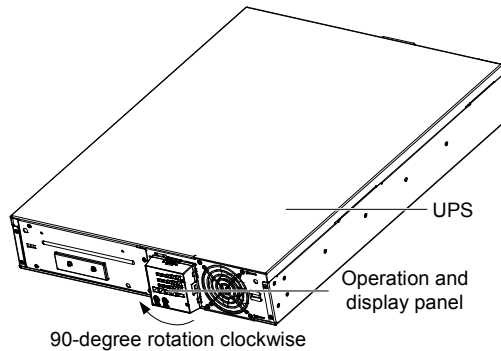

Figure 2-4 Rotating the operation and display panel
2. Pull the operation and display panel gently, rotate it 90 degrees clockwise and snap it back into position, as shown in Figure 2-4.